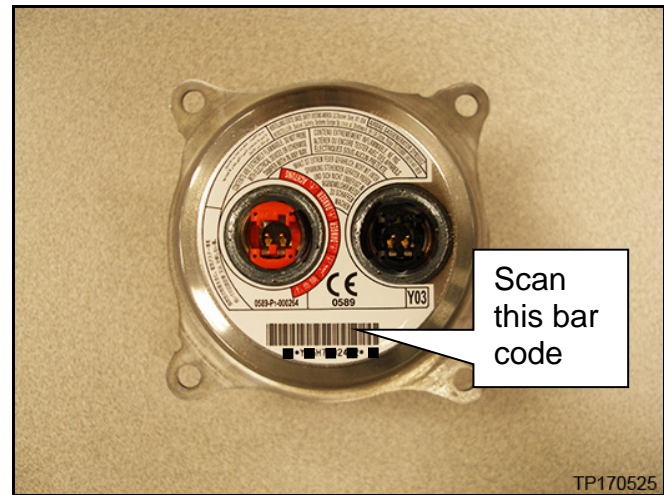

Figure 6
6. Use the quick scan tool to scan the bar code (serial number) on the new inflator (see Figures 6 and 7).